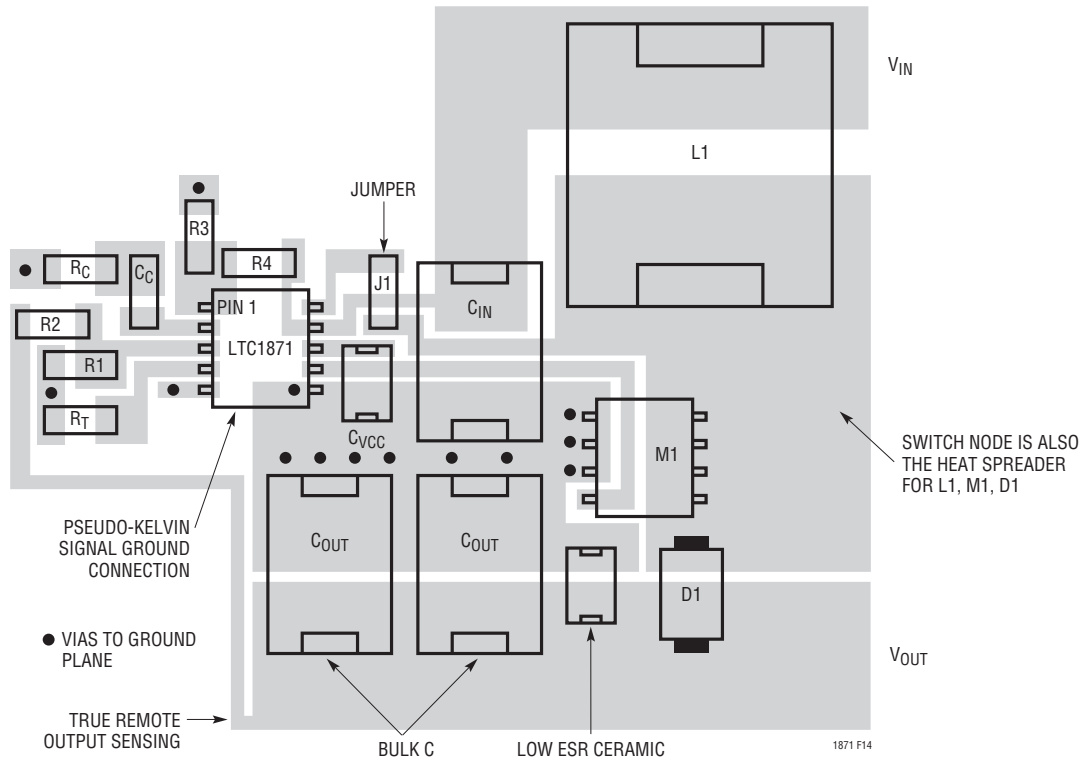

Figure 14. LTC1871 Boost Converter Suggested Layout
6. Place the small-signal components away from high frequency switching nodes. In the layout shown in Figure 14, all of the small-signal components have been placed on one side of the IC and all of the power components have been placed on the other. This also allows the use of a pseudo-Kelvin connection for the signal ground, where high di/dt gate driver currents flow out of the IC ground pin in one direction (to the bottom plate of the INTVCC decoupling capacitor) and small-signal currents flow in the other direction.